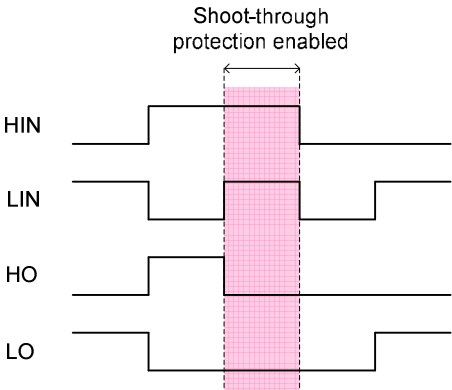

Figure 8: Illustration of shoot-through protection circuitry
The IRS233(0,2)(D) family of high-voltage ICs is equipped with shoot-through protection circuitry (also known as cross-conduction prevention circuitry). Figure 8 shows how this protection circuitry prevents both the high- and low-side switches from conducting at the same time. Table 1 illustrates the input/output relationship of the devices in the form of a truth table. Note that the IRS233(0,2)(D) has inverting inputs (the output is out-of-phase with its respective input).